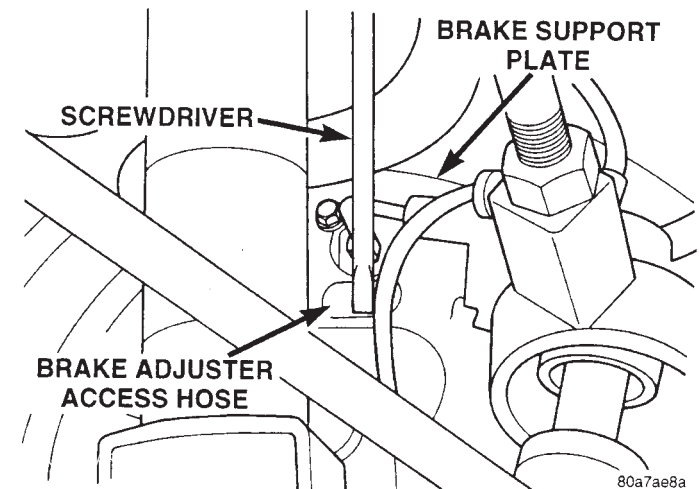

Fig. 57 Backing Off Rear Brake Shoe Adjustment
(2) Insert a screwdriver, through the automatic adjuster access hole, in the rear brake support plate (Fig. 57). Engage screwdriver with the teeth on the adjuster mechanism quadrant. Then rotate quadrant
so that the teeth on the quadrant are moved toward the front of the vehicle (Fig. 57). This will back off the adjustment of the rear brake shoes.